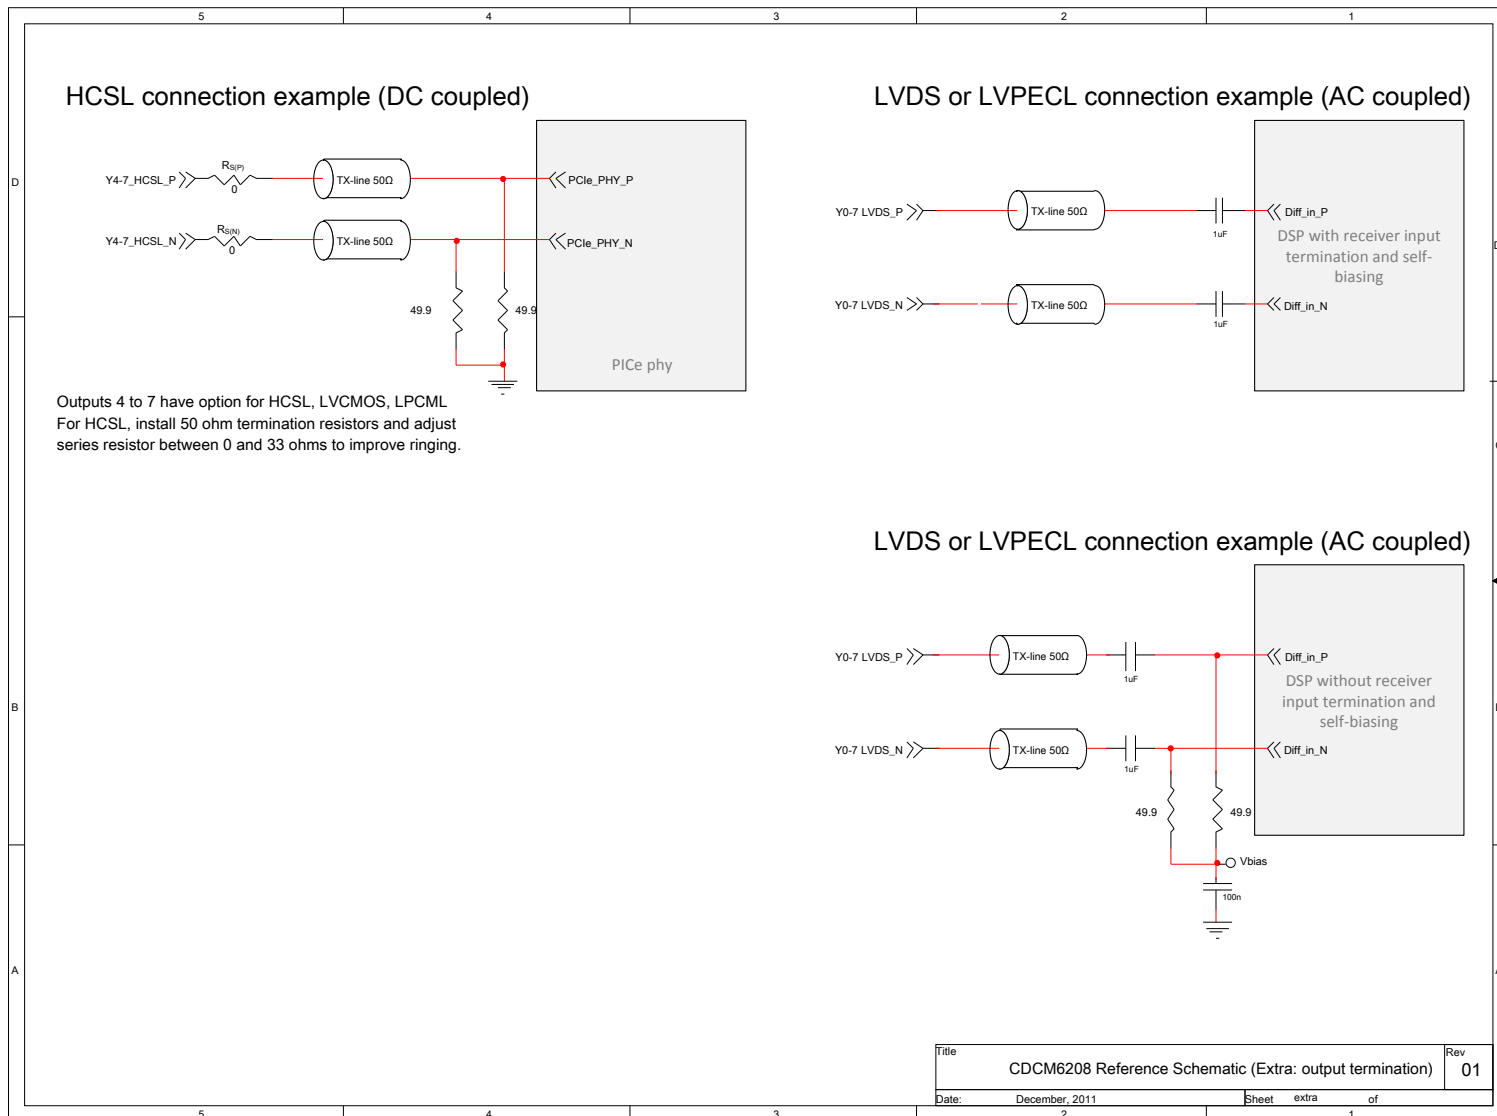

Figure 69. Schematic Page 4
**CML:** Outputs Y[3:0] support standard CML signaling. The supply voltage for outputs configured CML can be selected freely between 1.8 V and 3.3 V. A true CML receiver can be driven DC coupled. All other differential receiver should connected using AC coupling. See reference schematic Figure 69 for a circuit example.